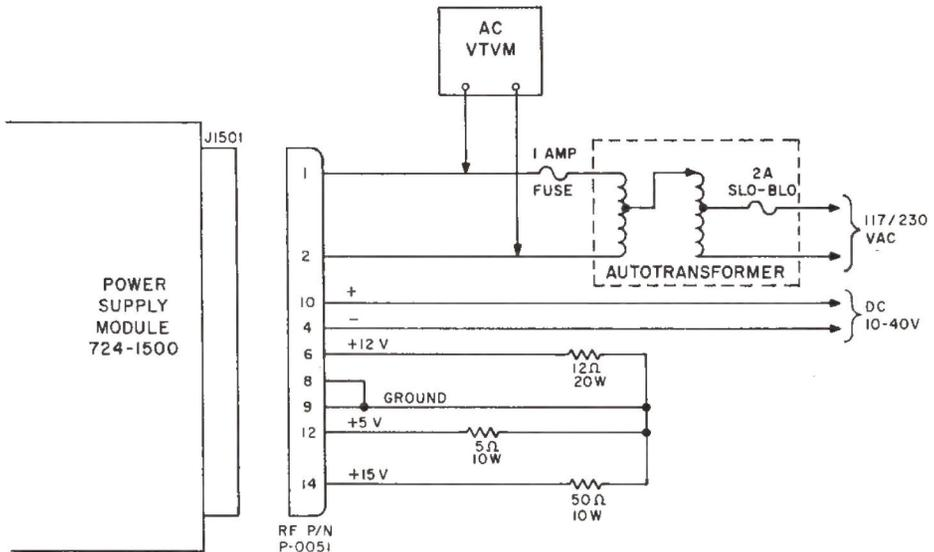

Figure 9.3 – Fabricated Test Circuit
- f. Fabricated test circuit, refer to figure 9.3.
b. Refer to figure 9.3 and connect the test circuit and all test equipment except the dc power supply.